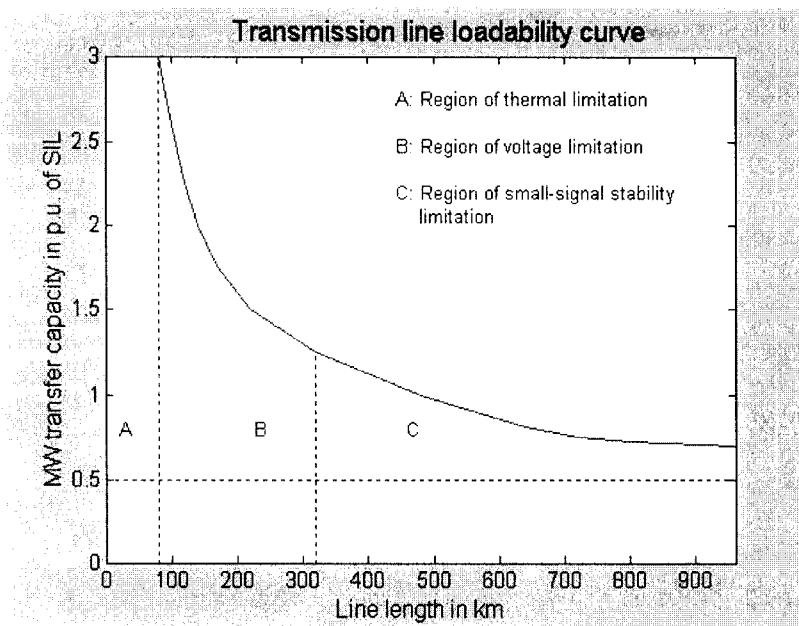

Figure 5.1: The St Clair Curve
- (c) **(computed example)** With reference to Figure 5.1 the power flow between two areas is given by